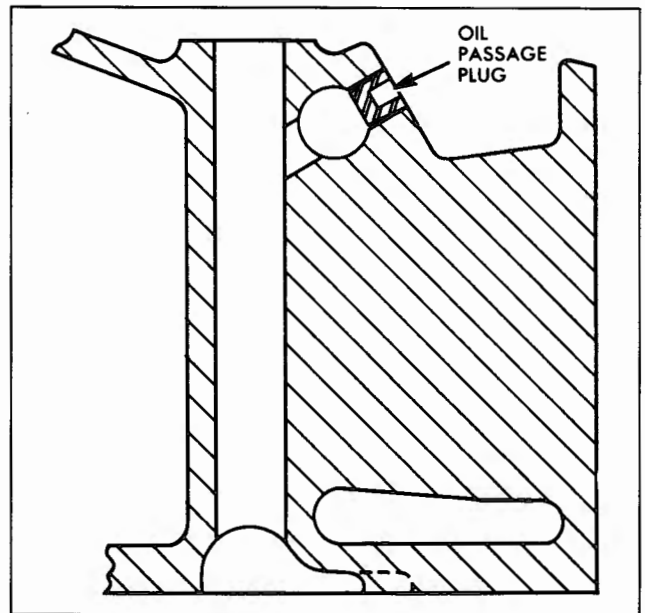

Fig. 6-26 Removing Oil Passage Plug
2. Insert easy-out in hole of plug turning counter-clockwise and pulling out on easy-out at same time (Fig. 6-26).